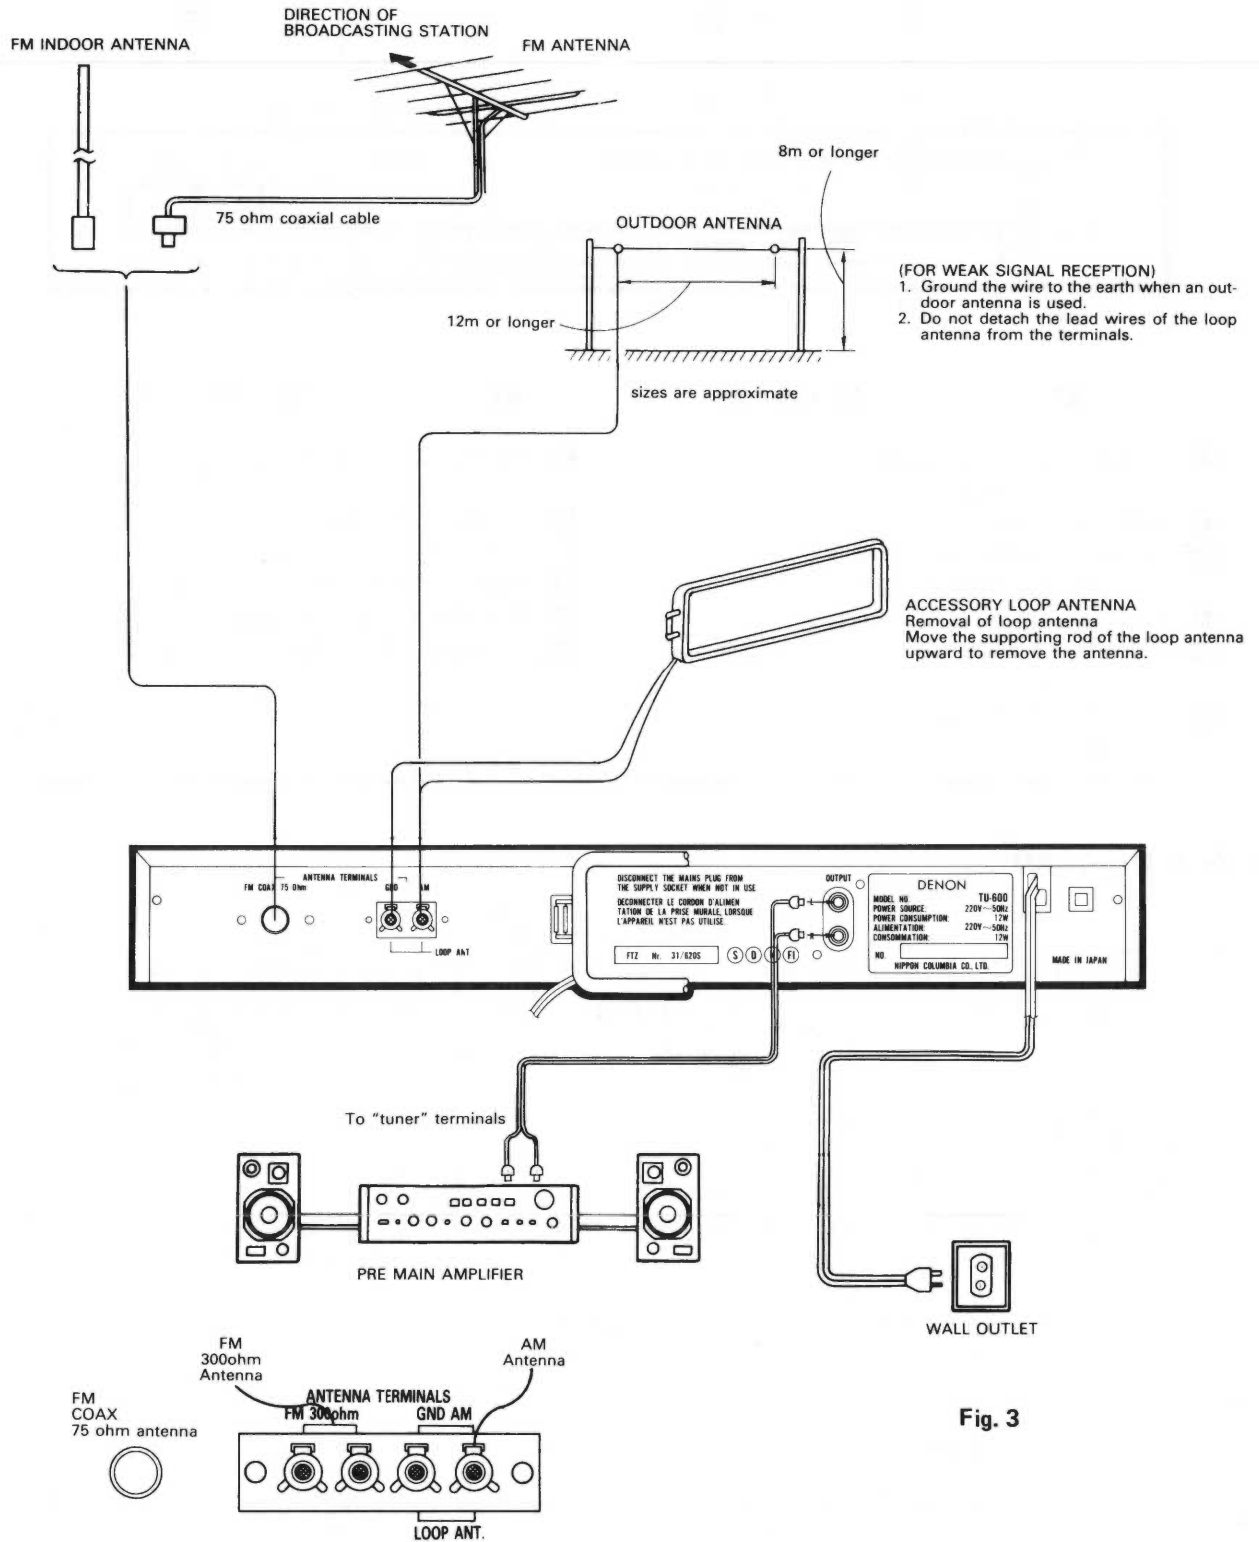

Fig. 3
- **LEAD WIRE FM INDOOR ANTENNA (Fig. 3)**
When connecting the coaxial cable to the antenna terminal using the DIN connector, please refer to the procedures in Fig. 3.